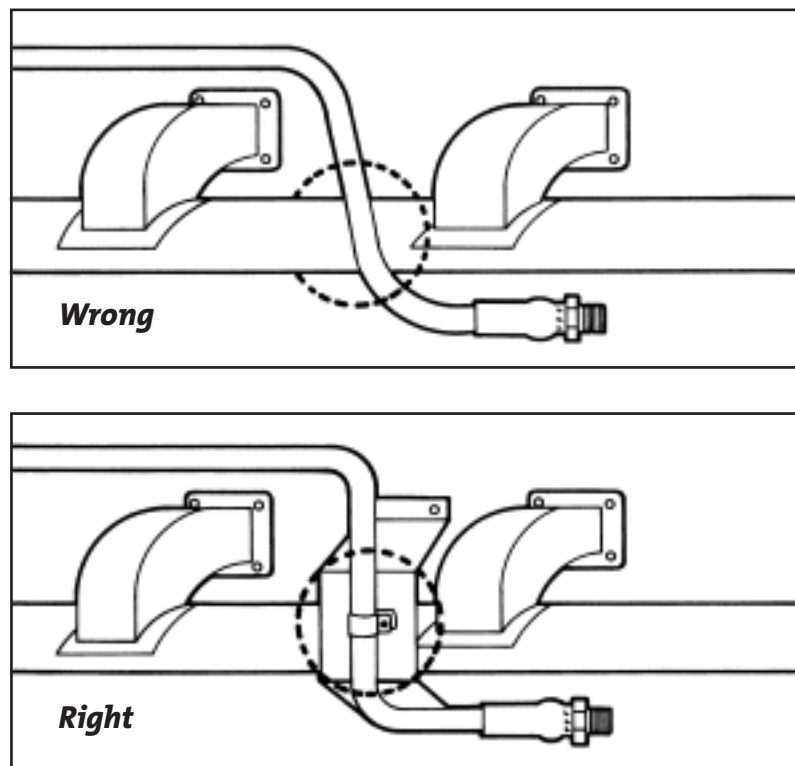

Figure 1
**Routing** – Many problems can be avoided by installing hose and hose assemblies away from hot equipment such as exhaust manifolds. Insulating heat shields may be necessary in some cases (Figure 1).